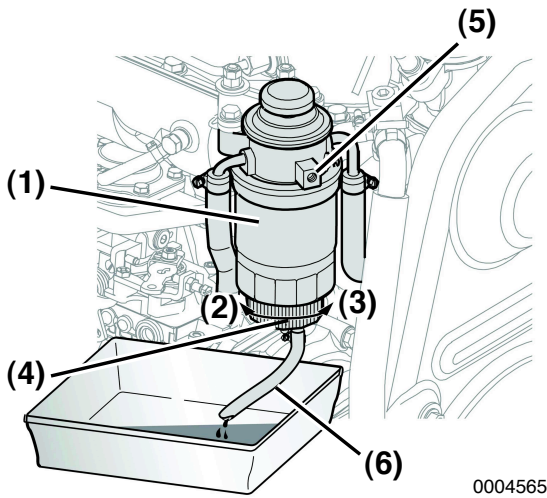

Figure 11
3. Attach a tube (**Figure 11, (6)**) to the drain plug (**Figure 11, (4)**).
4. Loosen the drain plug (**Figure 11, (4)**) at the bottom of the fuel filter / water separator counterclockwise and drain off any water or sediment.